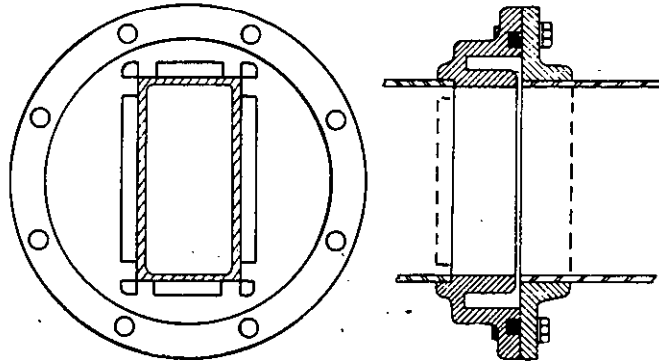

FIGURE 7.3. Typical choke coupling.
7.1.1.2 Choke flanges. Choke flanges are designed to be mated with cover flanges. Choke flanges use a quarter-wave deep groove around the waveguide opening plus a quarter-wave long noncontacting distance on the waveguide face to produce a half-wave transmission line at the midband of the flange operating frequency range. This transmission line presents a zero impedance to the waveguide at the flange face without physical contact. Choke flanges are used over the range of roughly 4 to 26 GHz. Above this range the performance of the choke as a zero impedance device falls off due to the wide band widths and very close tolerances required at these frequencies. Below this range the power levels used in current systems cause arcing and overheating of choke junctions if the choke couplings are used at band edges, or if sharp corners or foreign materials are present in the choke groove. Very high power systems usually use contact flanges with gaskets to provide very low resistance connections. Choke flanges include an O-ring installed in the flange face to provide a pressure tight system. The O-ring is installed near the junction between the two quarter-wave lines because it is then at a low current location where contact is noncritical. Choke flanges are mounted to waveguides by a raised or recessed socket. The socket may be formed by cross slotting the raised back of the flange or by milling a recessed area into the back of the flange. The waveguide is then soldered or brazed into the mounting. A typical choke coupling is shown in figure 7.3.